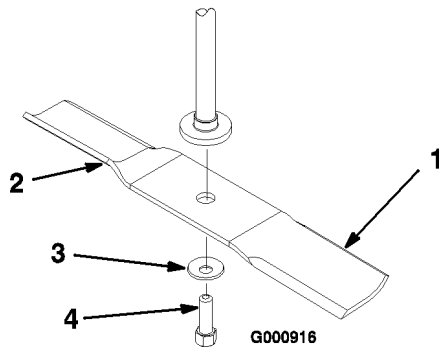

Figure 38
Hold the blade end using a rag or thickly-padded glove. Remove the blade bolt, curved washer, and blade from the spindle shaft (Figure 38).
1. Install the blade onto the spindle shaft (Figure 38).
2. Install the curved washer (cupped side toward the blade) and blade bolt (Figure 38). Torque the blade bolt to 35-65 ft-lb (47-88 N m).